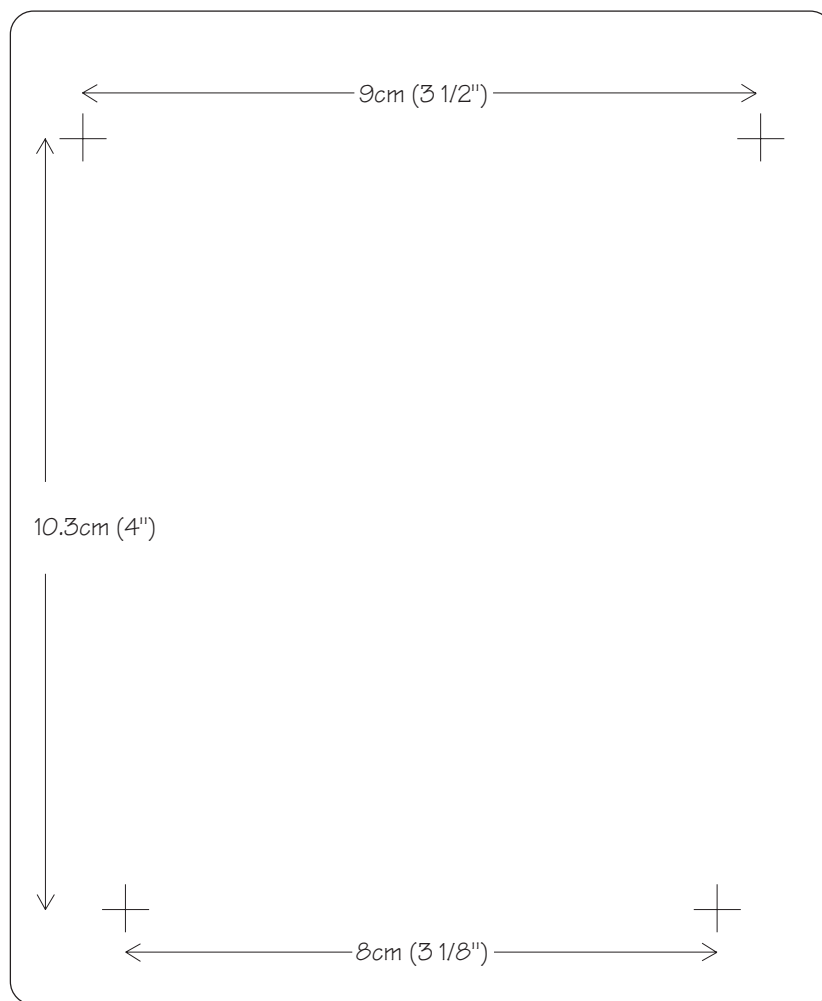

Fig 5-14 PowerView Wall Mounting Template
2. Use the template in figure 5-14 to secure four large screws on a clean dry wall surface.